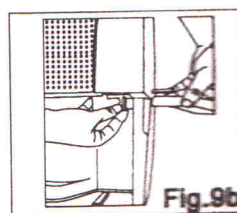

Fig.9b
- Screw the garden hose onto the threaded portion of the tray underneath the bucket opening. (Fig.9b)